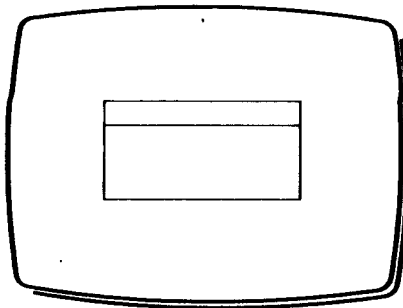

Fig 3
- 5 Remove a few lines from the drawing (Fig 3).